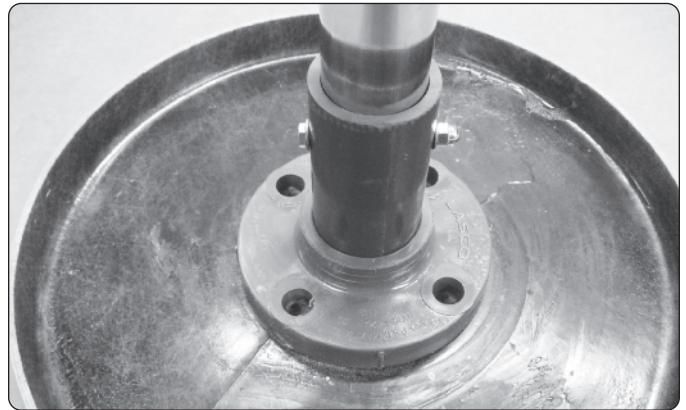

Figure 10: Pool/Spa Seat Receiver Pole Seated Into Pool/Spa Seat
8. Lay the seat upside down on the cardboard box to prevent scratching. Use PVC glue to permanently attach the support pole receiver to the seat flange. Support pole should still be inside receiver. Use the support pole to fully seat the receiver into the flange. **See Figure 10.**